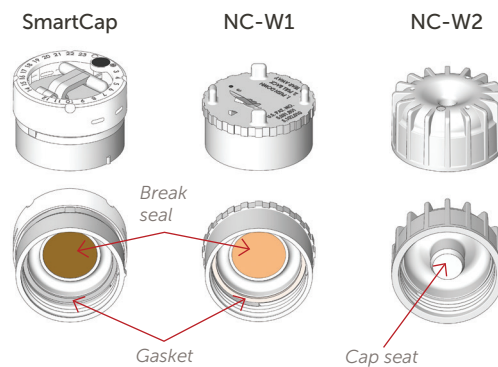

Figure 2.
4. Visually confirm that closure components are in place, as shown in Figure 2.